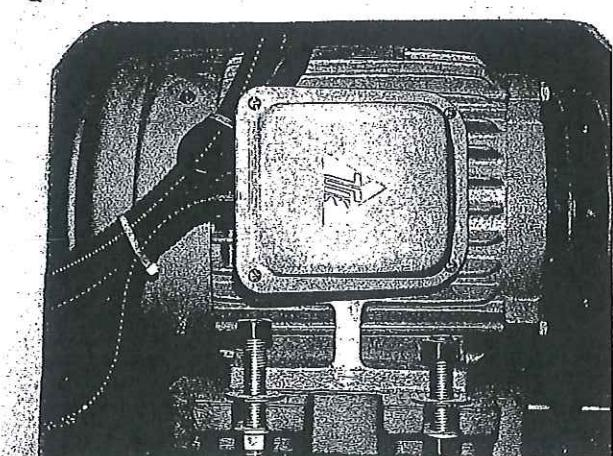

Figure 7
3. Loose motor mount or motor not seated properly on base. (**Figure 7**)